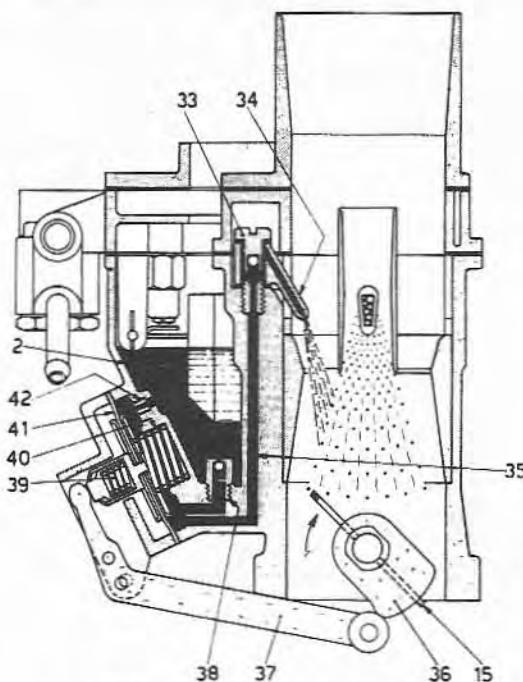

Fig. 12.4 Acceleration phase (Sec 3)
Refer to Fig. 12.4 and note that when the throttle valves are closed, the spring (40) pushes the diaphragm (41) outwards and fuel is drawn from the float chamber (2), through the inlet valve (38) into the pump chamber. When the throttle valves are opened, the cam (36) operates the lever (37) and the diaphragm (41) is depressed against the tension of the spring (40). Fuel is forced along the channels (35) to the delivery valves (33) and is injected through the pump jets (34) into the carburetor barrels in the vicinity of the auxiliary venturis. The spring (39) dampens any sudden opening of the throttle valves and prolongs the fuel delivery. The calibrated discharge hole (42) determines the maximum pressure of fuel injected into the carburetor and also allows any accumulated air and vapour to escape into the float chamber. The inlet valve (38) may also incorporate a calibrated discharge hole, whereby a further amount of fuel returns to the float chamber. By fine calibration of this hole it is possible to determine the exact quantity of fuel injected by the accelerator pump.